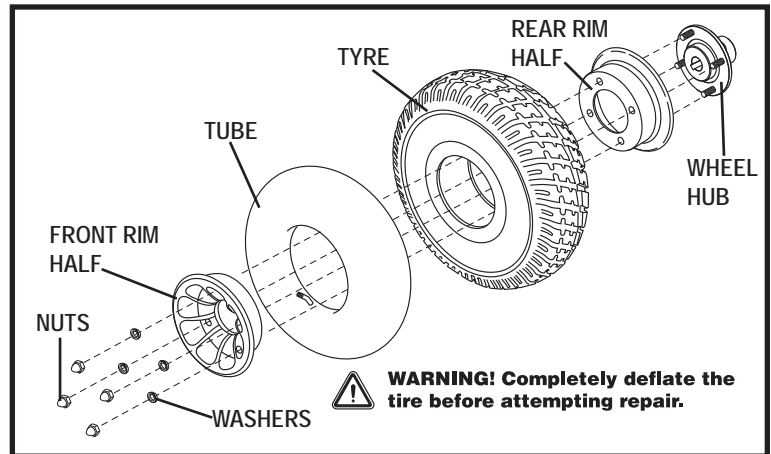

Figure 21. Quantum 610 Drive Wheel Disassembled
6. Remove the nuts and washers from the wheel hub and separate the rim halves. **See figure 21.**